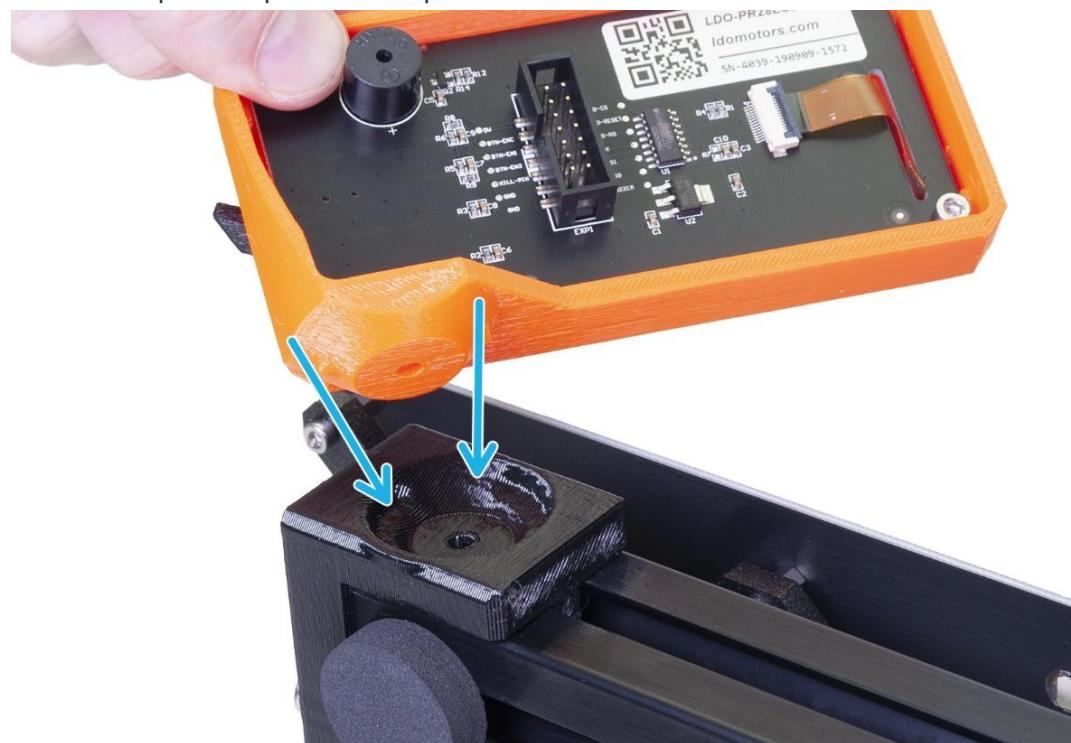

Figure 5.1.21
**B:** As shown in Figure 5.1.21. Place the LCD into the LCD holder. There is a notch, which fits inside the printed part on the printer.